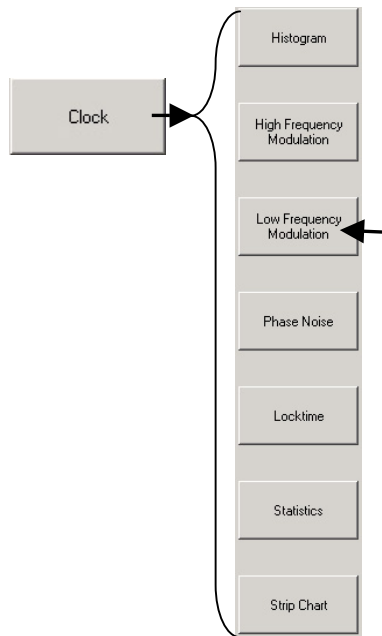

Figure 15. Low Frequency Modulation tool.
The low frequency portion of the specification (3MHz and below) is dominated by Periodic Jitter (PJ). To accurately measure this, make sure that your part is generating a clock like pattern (1010). Connect this signal to the SIA 3000 and click on “Clock” on the main menu and then click on “Low Frequency Modulation” (LFM) tool (Figure 15).